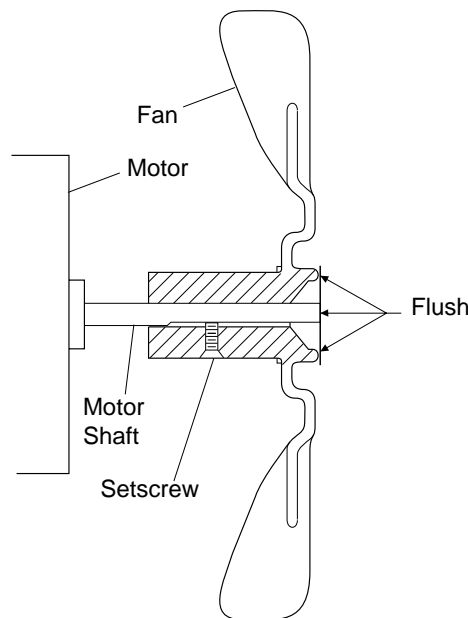

Figure 9 - Fan Cross Section 35/50/55/70/100/110,000 BTU/Hr Models
6. (35/50/55/70/100,000 BTU/Hr Models) Replace fan on motor shaft. Place fan hub flush with end of motor shaft (see Figure 9).